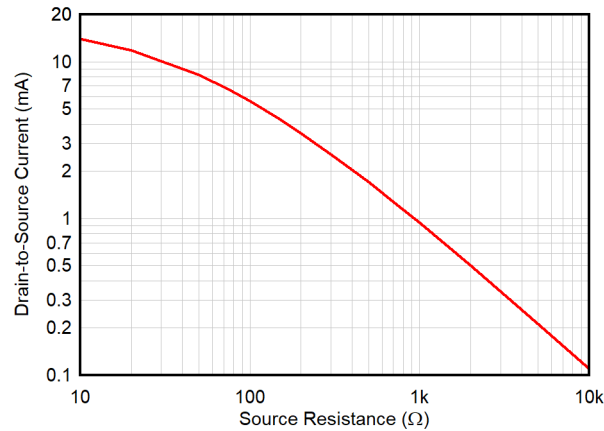

Figure 9-4. Drain-to-Source Current vs R_S , $V_{DS} = 5\text{ V}$
amplifiers at the same current consumption. The bias current (I_{DS}) is set by the value of the source resistor, R_S , and the threshold voltage, V_T , of the JFE2140. A graph showing nominal I_{DS} vs R_S is shown in Figure 9-4.
R _{S2}	Bias-current setting resistor. This resistor, along with R _{S1} , determine the bias current when using resistive biasing (see Figure 9-4). Note both R _{S1} and R _{S2} resistance will directly impact noise performance.
- The bias current is set by selecting the desired bias current and noise tradeoff (see Figure 6-16). To set the bias current point, adjust the source resistance according to Figure 9-4.